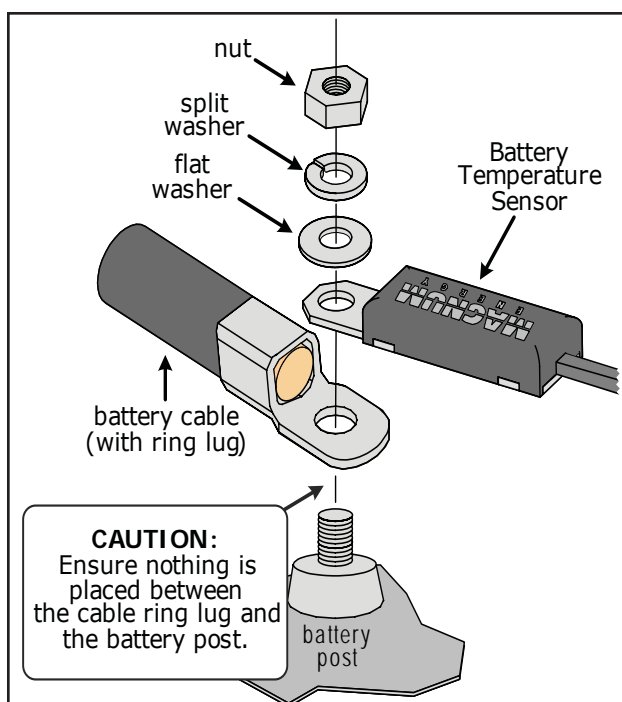

Figure 2-5, Battery Hardware Installation
Follow the examples in Figures 2-5 and 2-6 to connect the DC cables and stack the hardware correctly. Tighten the terminal connections from 10 to 12 ft lbf (13.6 to 16.3 N-m).
1. Attach the ring terminal end of the Battery Temperature Sensor to the negative battery terminal; see Figure 2-5 for proper connection to the battery terminal.
Ensure the DC wire connections (on the batteries, inverter, and DC circuit breaker/fuse lugs) are flush on the surface of the DC terminals, and the hardware (lock washer and nut) used to hold these connections are stacked correctly (Figures 2-5 and 2-6). Verify all DC connections are torqued from 10 to 12 ft lbf (13.6 to 16.3 N-m).